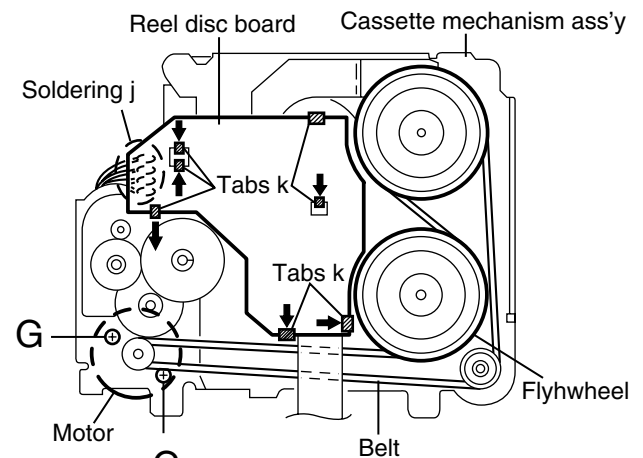

Fig.10
■ **Removing the reel disc board (See Fig.10)**
■ **Removing the motor and the sub motor (See Fig.10 and 11)**